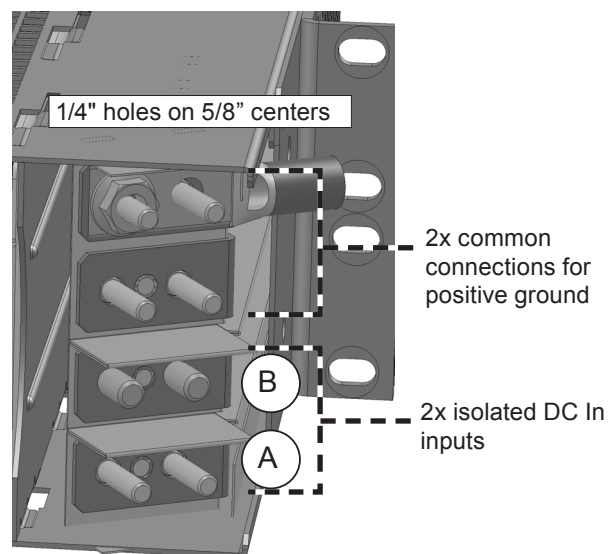

Figure 24 — DC input wiring connections
1. Connect the daisy-chained CAN bus cable from the top shelf to the last shelf or fan tray. Figure 24 shows the wiring for three shelves and a fan tray.